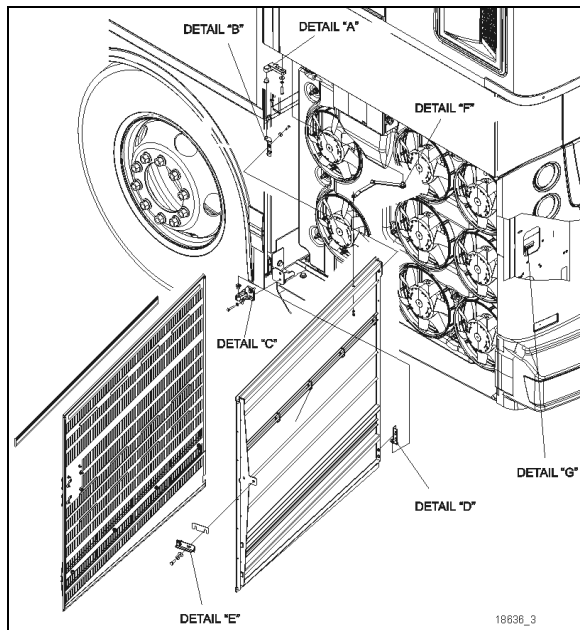

FIGURE 136: RADIATOR DOOR
- Loosen the bolts, (details "A" & "C", Figure 136) holding the hinge to the vehicle structure to shift the door "LEFT or RIGHT".
- Loosening the bolts (details "B" and "D", Figure 136) allows the door to be shifted "UP or DOWN".